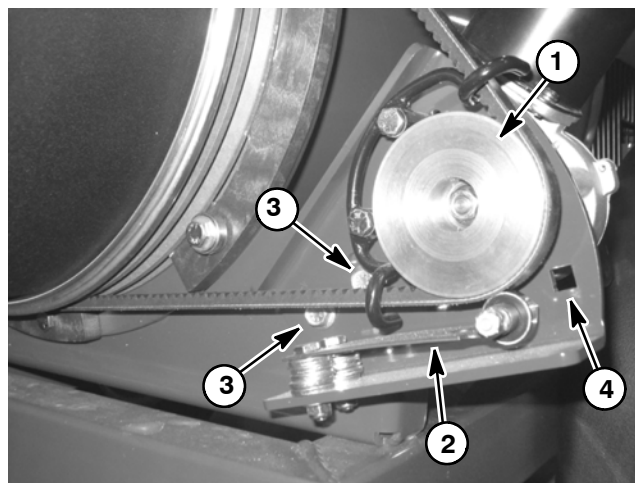

Figure 26
1. Position nozzle motor to bracket and secure with three (3) cap screws.
4. Place v-belt in nozzle pulley, route behind belt guard (item 13) and install belt on motor pulley.
5. With a 3/8 in. drive torque wrench, pivot the motor bracket from **200 to 230 in-lb (23 to 25 N-m)** to set v-belt tension (Fig. 26). **Do not over tension belt.** Hold bracket with the torque wrench and tighten two (2) flange head screws and flange nuts to secure belt adjustment and nozzle motor bracket.
7. Position leaf spring with bearing and flat washers (item 5) to bracket. Make sure that five (5) washers are placed between spring and bracket at each mounting hole. The bearing on the leaf spring should be centered on the outside of the v-belt. Secure leaf spring to motor bracket with two (2) cap screws (item 21) and flange nuts (item 22).